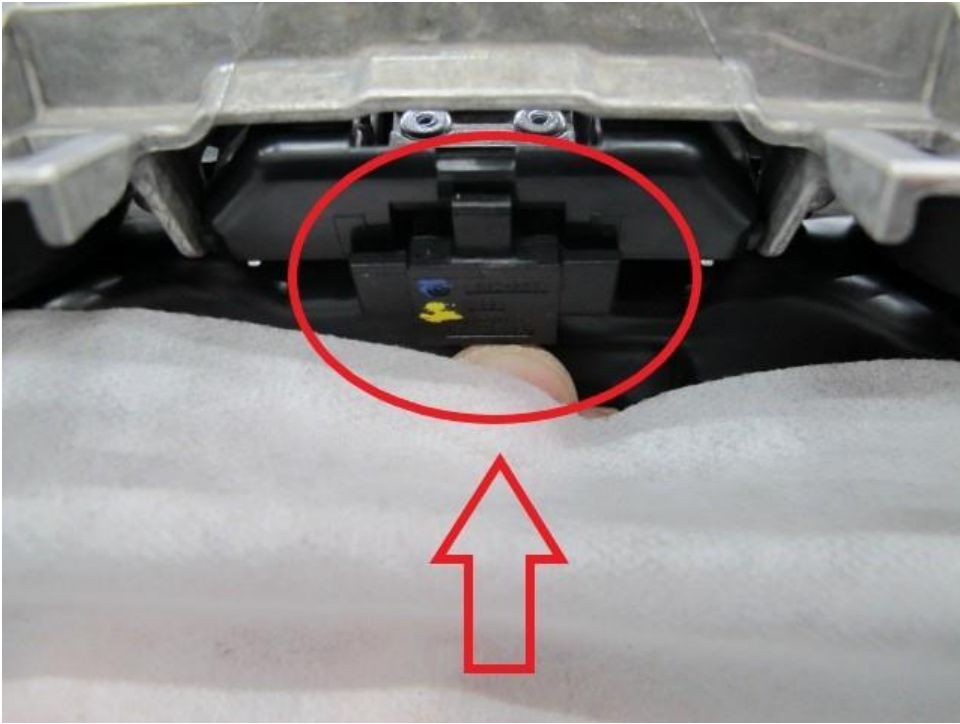

Figure 5
- Referring to Figure 5 - The upper plug should be located and secured as shown, the operative can access the upper connector by feeding the harness in between the squab and seat frame